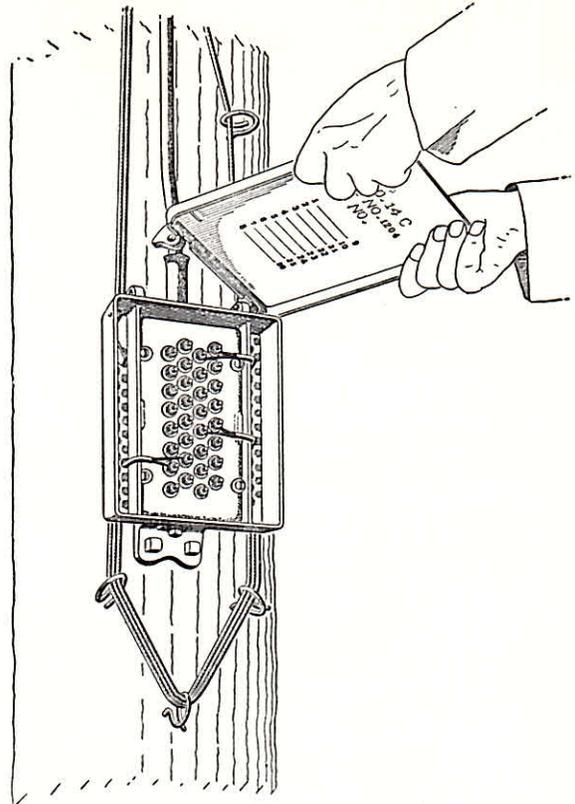

Fig. 3
- (1) Cut one of the hinge rivets, or the iron wire if this has been used to attach the hinged cover, by means of a hack-saw with the blade placed between the lugs of the hinge.
- (2) Remove the cover by raising it to a position parallel with the ground and pivoting it about the fixed hinge to force the remaining rivet free. Where iron wire has been used, pull it through the fixed hinge or, if necessary, cut it at that point and lift off the cover. See Fig. 3.